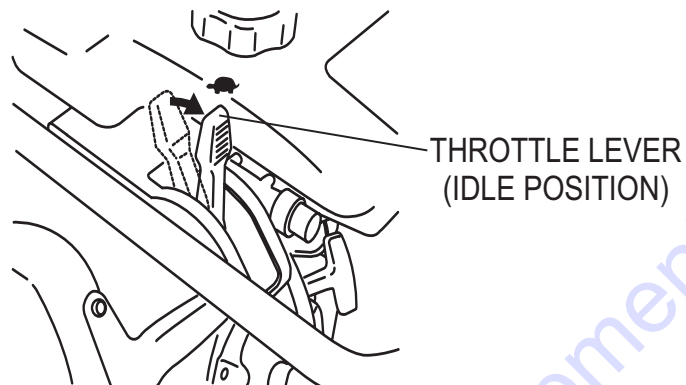

Figure 6. Throttle Lever (Idle Position)
1. Slide the throttle lever from the stop to the idle position (🐢) (Figure 6). This opens the fuel cock and the engine electrical circuit is turned on automatically.